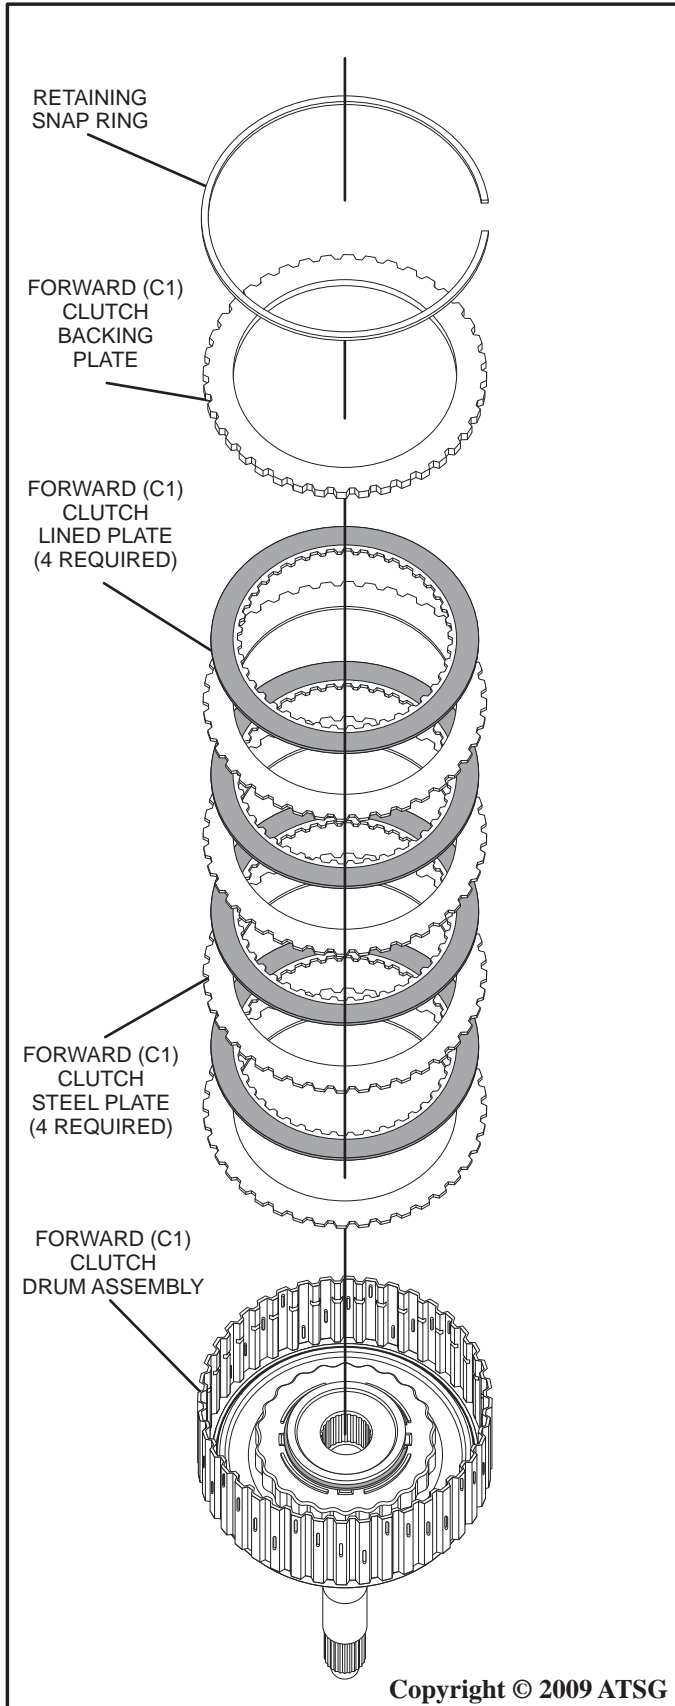

Figure 102
9. Install the forward (C1) clutch plates beginning with a steel plate, then alternating frictions and steels until there are four steel and four lined plates installed into the drum housing as shown in Figure 102.
10. Install the forward (C1) clutch backing plate into the drum housing as shown in Figure 102.
11. Install the retaining snap ring into the drum housing as shown in Figure 102.